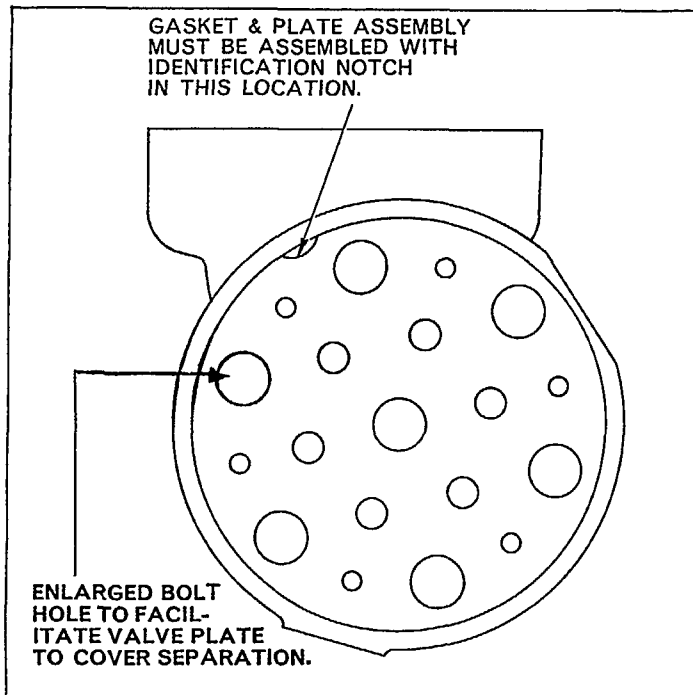

Figure 91
12. Place the cover assembly in a vice with the valve plate facing downwards and a tray underneath the cover, to prevent the loss of the balls and springs. Insert a long tapered punch through the special largest bolt hole, Figure 91, and, pressing against the valve plate, gently tap the plate downwards until it is almost free of the cover, Figure 84.
4. Lower the valve plate carefully over the outlet valves using two cap screws to obtain proper alignment of the plate and cover, Figure 91.
6. Apply a small amount of grease to the plate and position a new gasket on the valve plate. Correct positioning of the gasket relative to the valve plate is important, Figure 91.